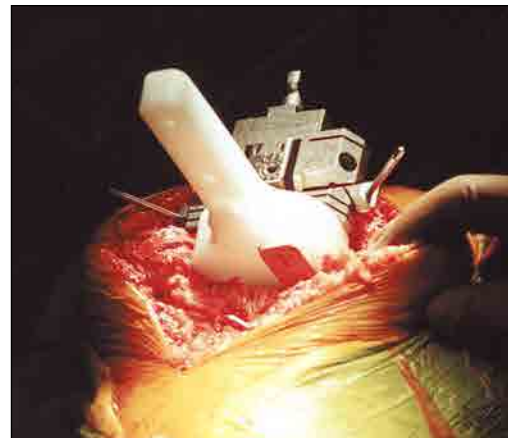

Figure 15
- After completing the distal femoral resection, the balance and alignment of the flexion and extension gaps can be evaluated through the use of Gap spacer blocks. (Figure 15)